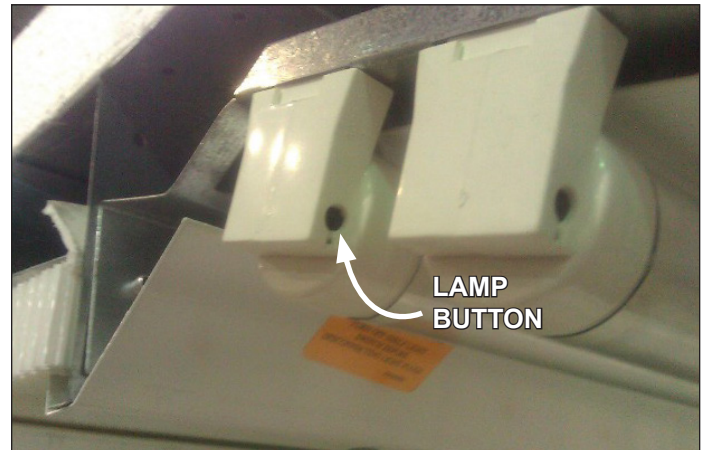

Fig. 10 Align new T-8 with plug button to secure
3. Push the new T-8 lamp into place on the lamp holder. When the T-8 is properly seated, the lamp button - which secures the T-8 to the lamp holder - will be clearly visible through the lamp button hole (Fig. 10).